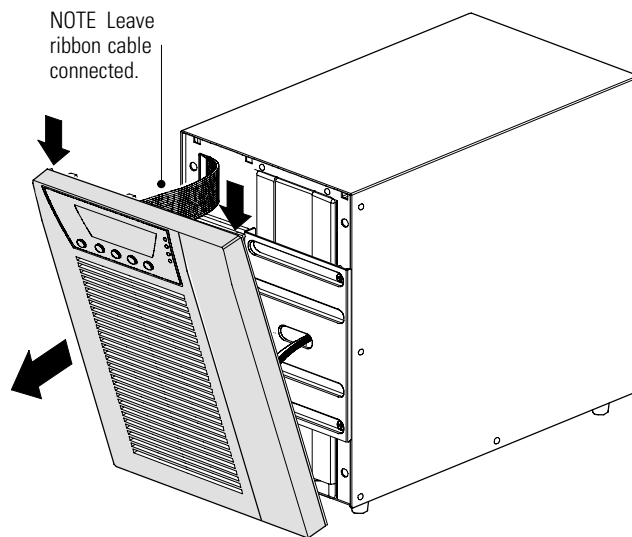

Figure 14. Removing the UPS Front Cover
1. Remove the UPS front cover (see Figure 14).